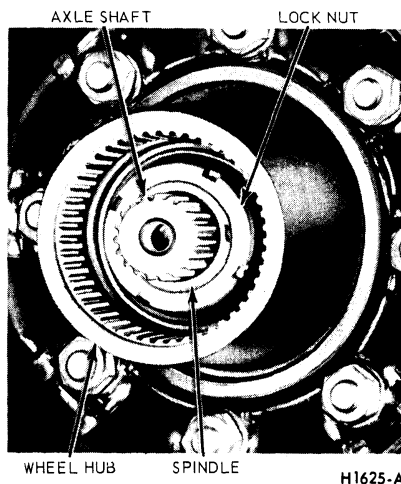

FIG. 12 Front Wheel Hub—Four-Wheel Drive
3. Remove the lock nut, washer, and wheel bearing adjusting nut from the steering spindle. Remove the wheel, hub and drum as an assembly (Fig. 12). The wheel outer bearing will be forced off the spindle at the same time. Remove the wheel inner bearing cone.
3. Rotate the wheel in both directions and at the same time tighten the inner locknut to 50 ft-lbs to bring the bearing rollers into proper contact. After the bearings are firmly seated, back off the inner locknut and retighten to 30 to 40 ft-lbs while hub is rotated. Back off the inner locknut 135 degrees to 150 degrees. Assemble the lockwasher by turning the nut to the nearest hole in the washer lock. Install the outer lock nut and torque to 50 ft-lbs, (Fig. 12).